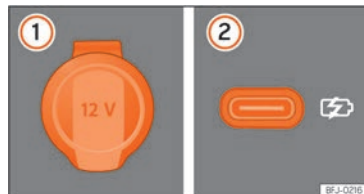

Fig. 145 ① 12 volt socket. ② USB socket on the rear part of the centre console.
- Lift the power socket cover » Fig. 145 ①.
These USB ports are located in the rear part of the centre console, between the front seats »» Fig. 145 ②. These connectors can work at a maximum power of up to 10.5 W per port.